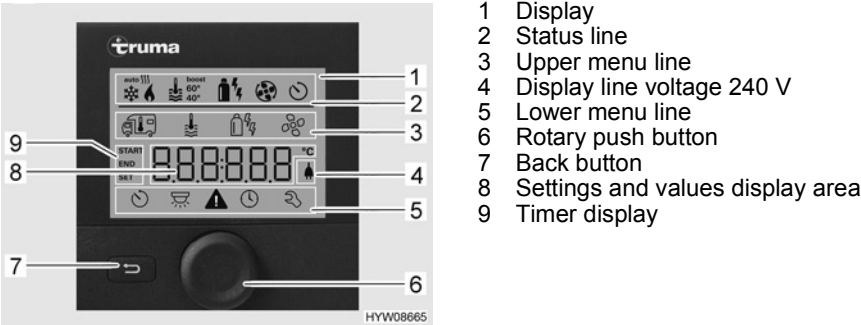
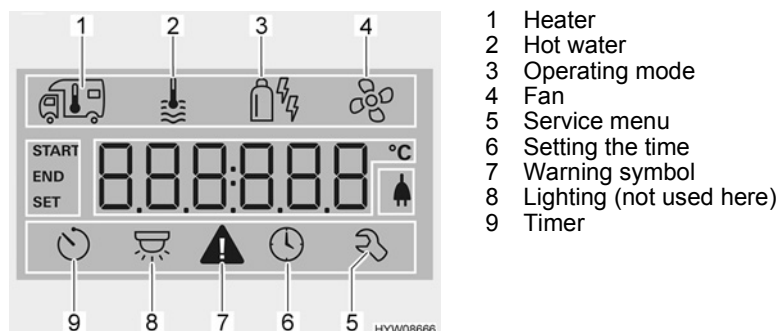

Fig. 85 Operating unit with displays
Fig. 86 Display (operating unit)
- Status line (Fig. 85,2)
- Upper menu line (Fig. 85,3)
- Display area (Fig. 85,8)
- Lower menu line (Fig. 85,5)
- Press and hold the rotary push button (Fig. 85,6) for approx. 3 seconds. Both menu lines (Fig. 85,3 and Fig. 85,5) are displayed. The first symbol flashes.
- Turn rotary push button (Fig. 85,6) until the required menu symbol flashes.
- Press rotary push button to save the value set. If you do not wish to change the value originally set: Press back button (Fig. 85,7).
- Turn rotary push button (Fig. 85,6) until the heater menu symbol (Fig. 86,1) flashes.
- Press rotary push button to save the value set. The symbol in the status line (Fig. 85,2) flashes until the room temperature set is reached. If you do not wish to change the value originally set: Press back button (Fig. 85,7).
- Turn rotary push button (Fig. 85,6) until the hot water menu symbol (Fig. 86,2) flashes.
- Press rotary push button to save the value set. The symbol in the status line (Fig. 85,2) flashes until the hot water temperature set is reached. If you do not wish to change the value originally set: Press back button (Fig. 85,7).
- Turn rotary push button (Fig. 85,6) until the menu symbol operating mode (Fig. 86,3) flashes.
- Press the rotary push button to save the set operating mode. To revert to the original setting: Press back button (Fig. 85,7).
- Turn rotary push button (Fig. 85,6) until the fan menu symbol (Fig. 86,4) flashes.
- Turn rotary push button (Fig. 85,6) until the timer menu symbol (Fig. 86,9) flashes.
- Press rotary push button. The timer is activated. The timer symbol (Fig. 86,9) flashes when the timer is programmed and active.
The warning symbol (Fig. 86,7) flashes in the event of a warning. The heater continues to operate. In the event of only a temporary fault, the warning symbol goes out automatically.